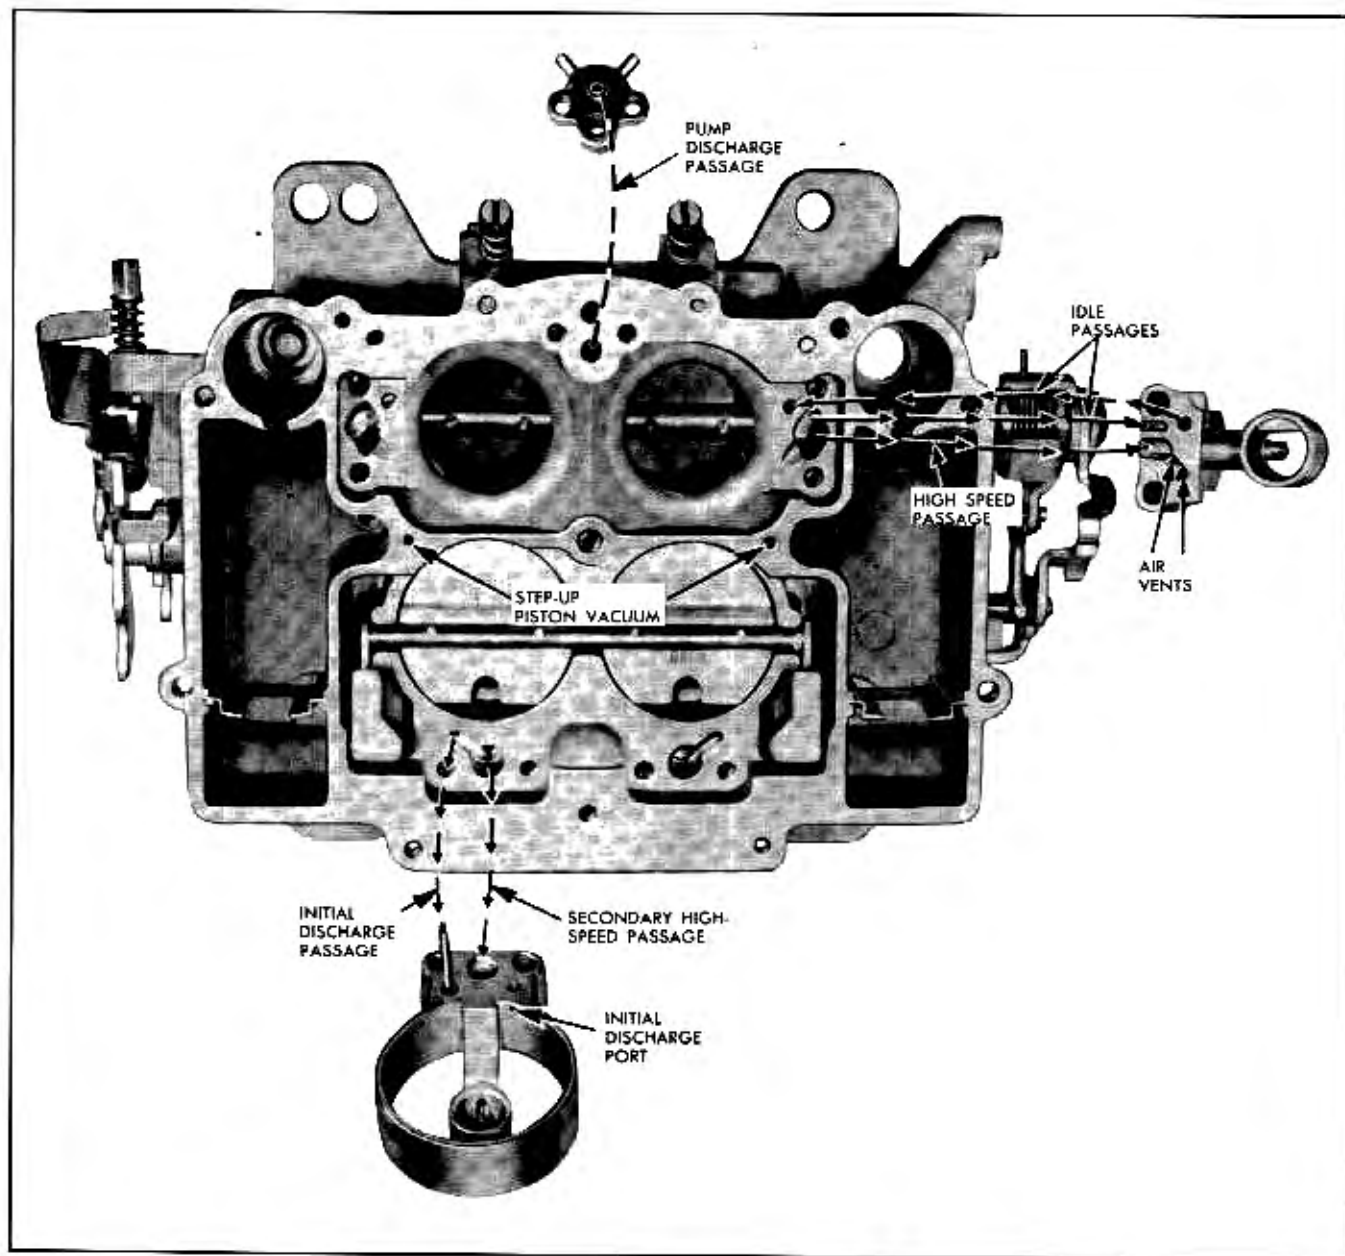

Fig. 6B-82 Passage Identification—Cluster to Body
2. Blow out all passages (Figs. 6B-80 through 6B-84) in casting with compressed air and blow off all parts so they are free of cleaner. (Be sure to follow instructions furnished with cleaning solution.)